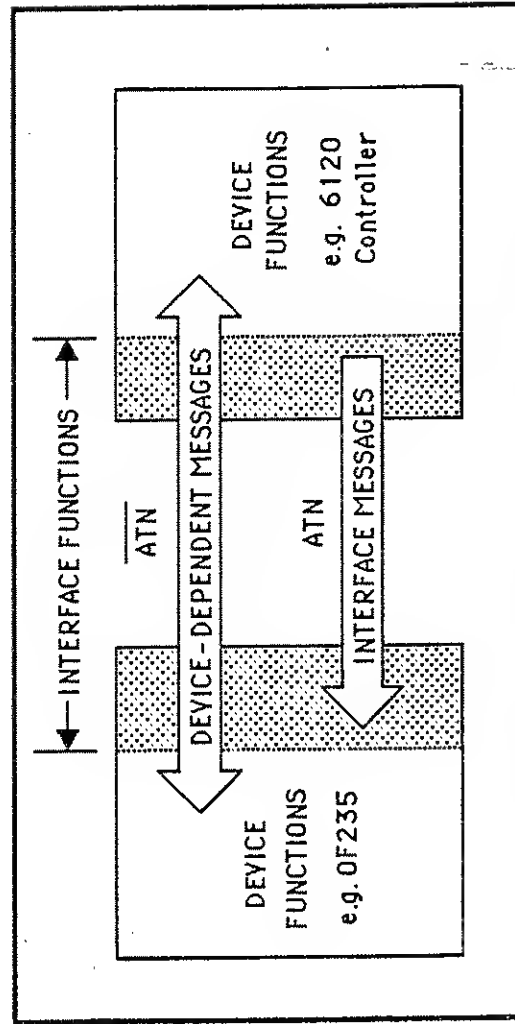

Fig. 4-4. Message Transferred from Talker to Listener.
* These are called interface messages to distinguish from device-dependent messages sent from talkers to listeners (see Figure 4-4). The controller asserts ATN to get the attention of all devices on the bus and then uses the source handshake to send interface messages on the data lines.